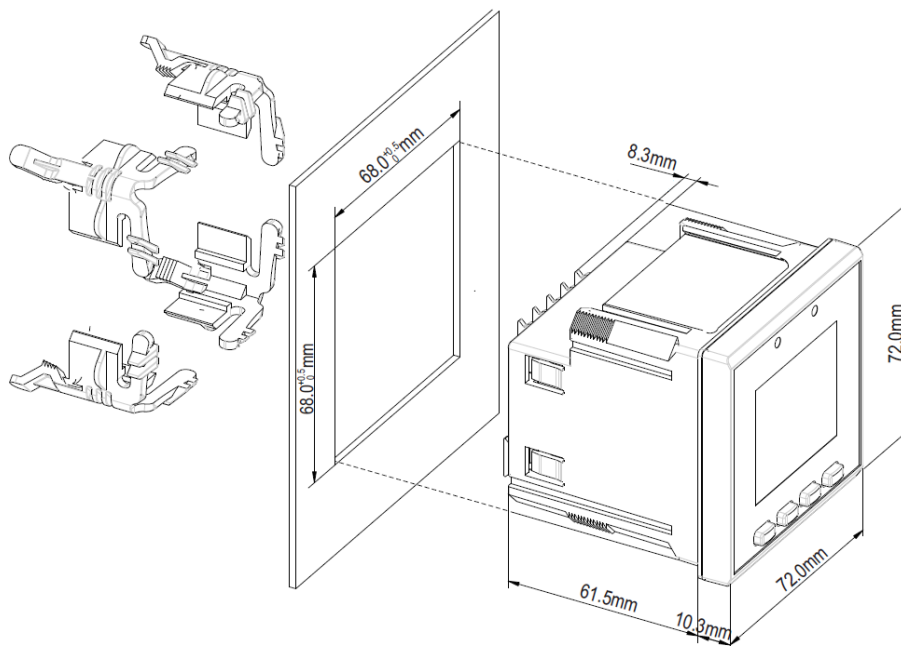
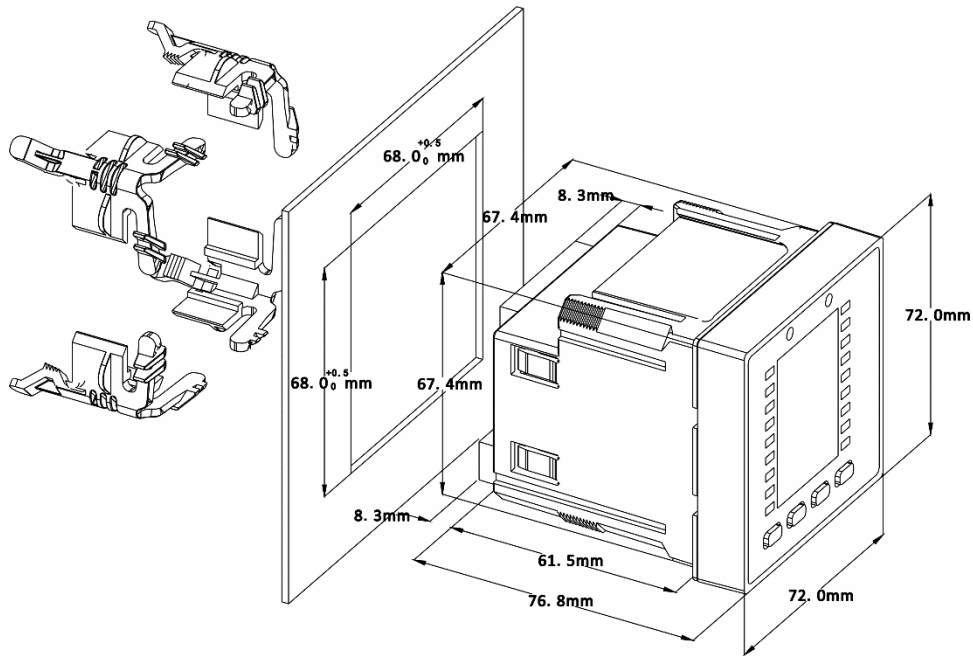

Figure 2-12 Panel Cutout (LCD)
Figure 2-13 Panel Cutout (LED)
- Fit the meter through a 68mmx68mm cutout as shown in Figure 2-12 (LCD) or Figure 2-13 (LED)